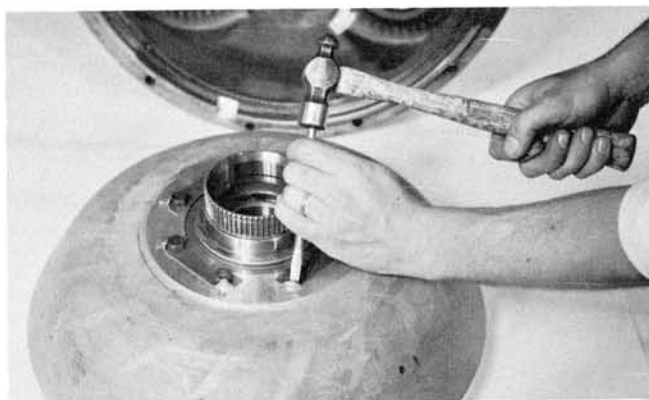

Figure 19
*See note on page 10, Figure 19.